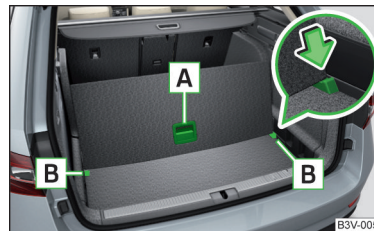

Fig. 162 Dividing the boot with variable loading floor
- › To **divide**, lift the variable loading floor by the handle **A** and push in the rear edge of the variable loading floor in the grooves **B** in the direction of the arrow » Fig. 162.